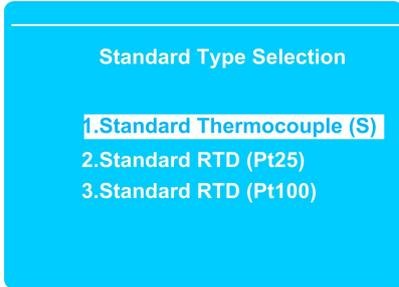
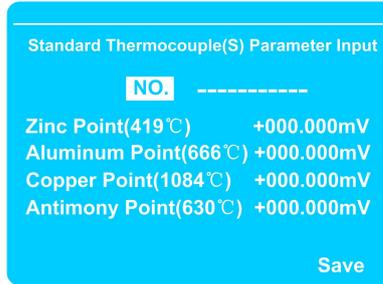
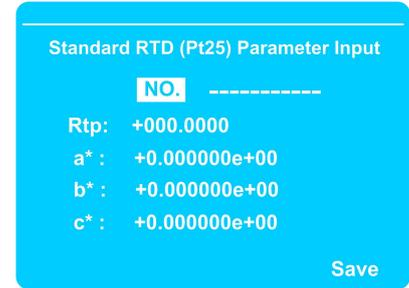

Figure 5.9-55
Figure 5.9-56
Figure 5.9-57
shown in Figure 5.9-55). Select an appropriate type and then press  to enter setting interface.
1. Setting of Standard Thermocouple (S) (as shown in Figure 5.9-56)
Under the interface shown in Figure 5.9-55, select 1. Standard Thermocouple (S) and then enter its submenu (as shown in Figure 5.9-56), press  or  for shifting, press  or  for digital increase or decrease by 1 to completely input standard thermocouple number, press  for return to the beginning of the line, press  or  for switching temperature points to get a voltage value under each temperature point, then shift the cursor to Save, press  to enable the parameter setting and then press  for return to the previous menu.
2. Setting of Standard RTD (Pt25) (Figure 5.9-57)
Under the interface shown in Figure 5.9-55, select 2. Standard RTD (Pt25), enter its submenu (Figure 5.9-57) and then fill in parameter values of the RTD Pt25.